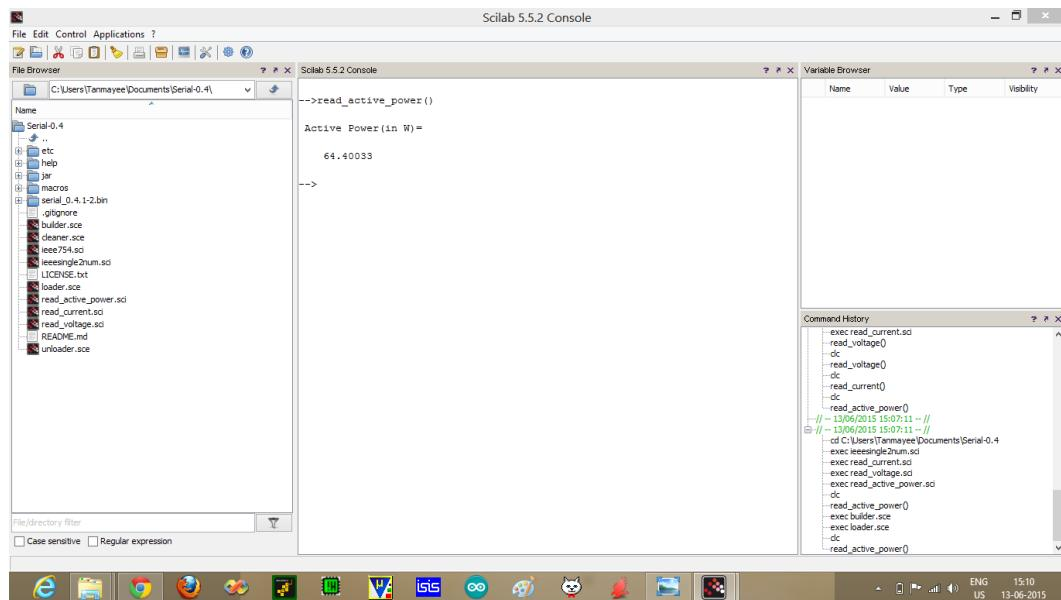
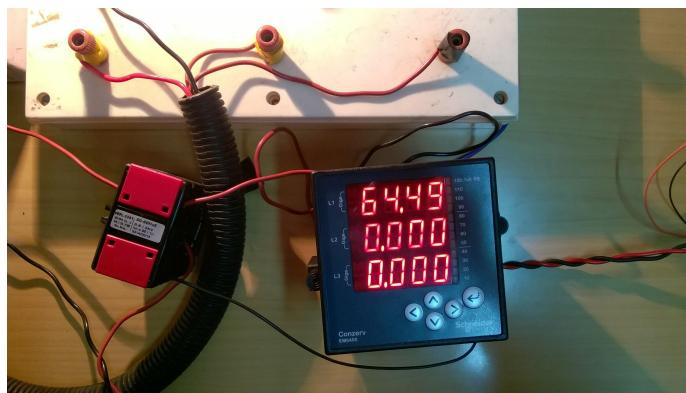

Figure 11.12: Single Phase Voltage Output on Scilab Console
Figure 11.13: Single Phase Voltage Output on Energy Meter
3. Single phase active power outputs are shown in Fig. 11.12 and Fig. 11.13.